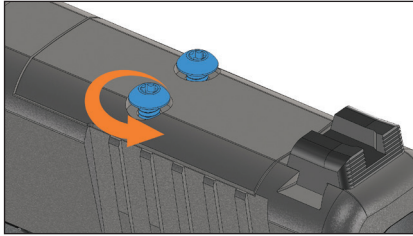

Figure 8 – Loosen screws
1. Loosen screws and remove (Figure 8).